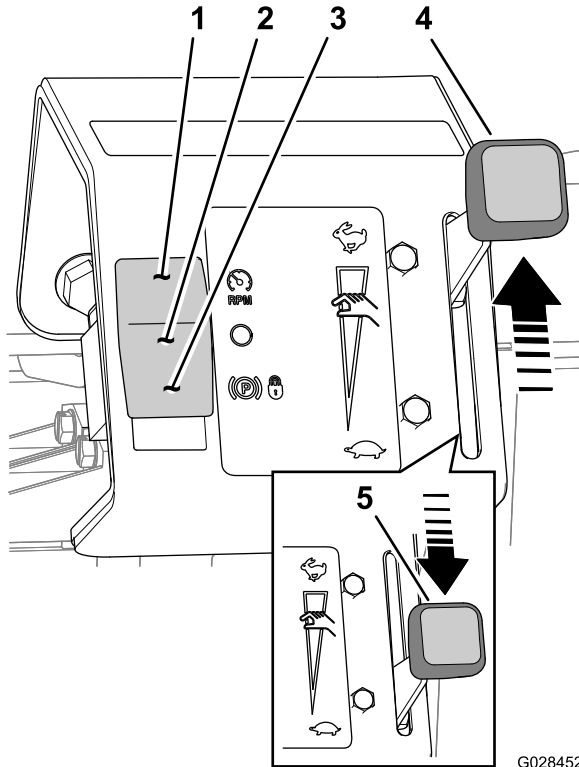

Figure 30
2. Move the hand throttle to the Slow position (Figure 30).
3. Press the mode switch down to the throttle-lock position (Figure 30).
5. Move the hand throttle toward the Fast position (Figure 30).
6. Move the hand throttle to the Slow position (Figure 30).
9. Move the hand throttle toward the Fast position (Figure 30).
1. Move the hand throttle to the Slow position (Figure 30).
2. Press the mode switch up to the Off position (Figure 30).
6. Move the hand throttle toward the Fast position (Figure 30).
2. Press the mode switch up to the limit ground-speed position (Figure 30).
5. While pressing the throttle pedal, move the hand throttle toward the Fast position (Figure 30).